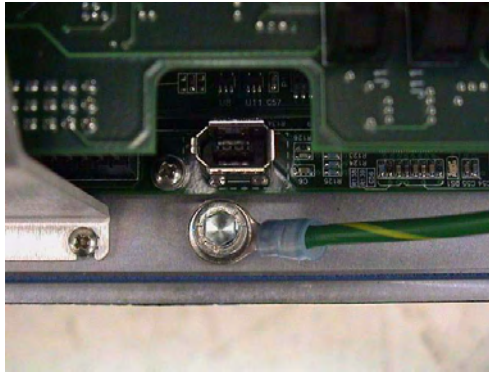

Figure 8-5. Ground Screw on AIB Chassis
15. Using a 5MM Allen key, disconnect and remove the ground wire from the chassis. Keep the screw for reassembly later. See Figure 8-5 on page 153.